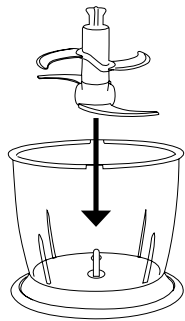

FIG. 1a.
1. Assemble the vortex 4 blade over the pin in the food processor bowl as shown in Fig. 1a.